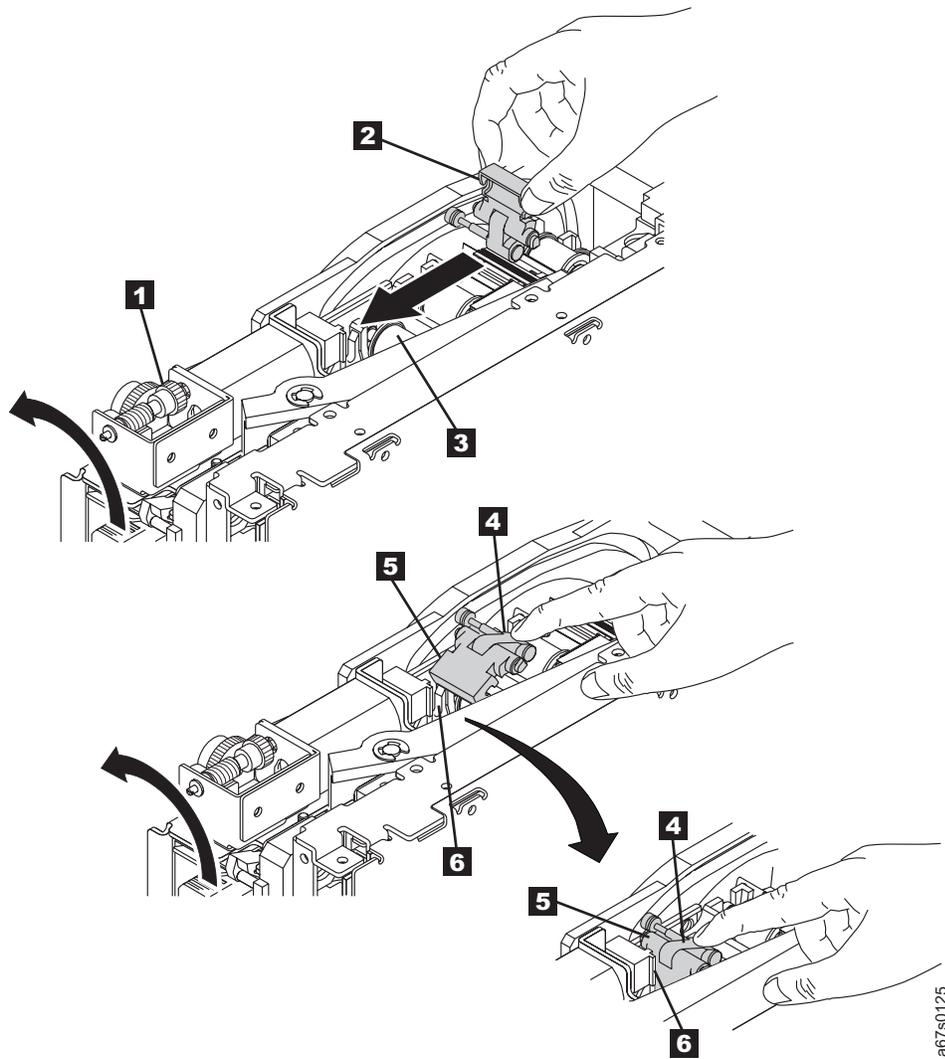

Figure 172. Guiding Leader Pin into Tape Cartridge
15. Manually rotate the loader motor gear (see **1** in Figure 172 on page 683) in the unload direction until the leader pin block **2** reaches the last roller **3**.